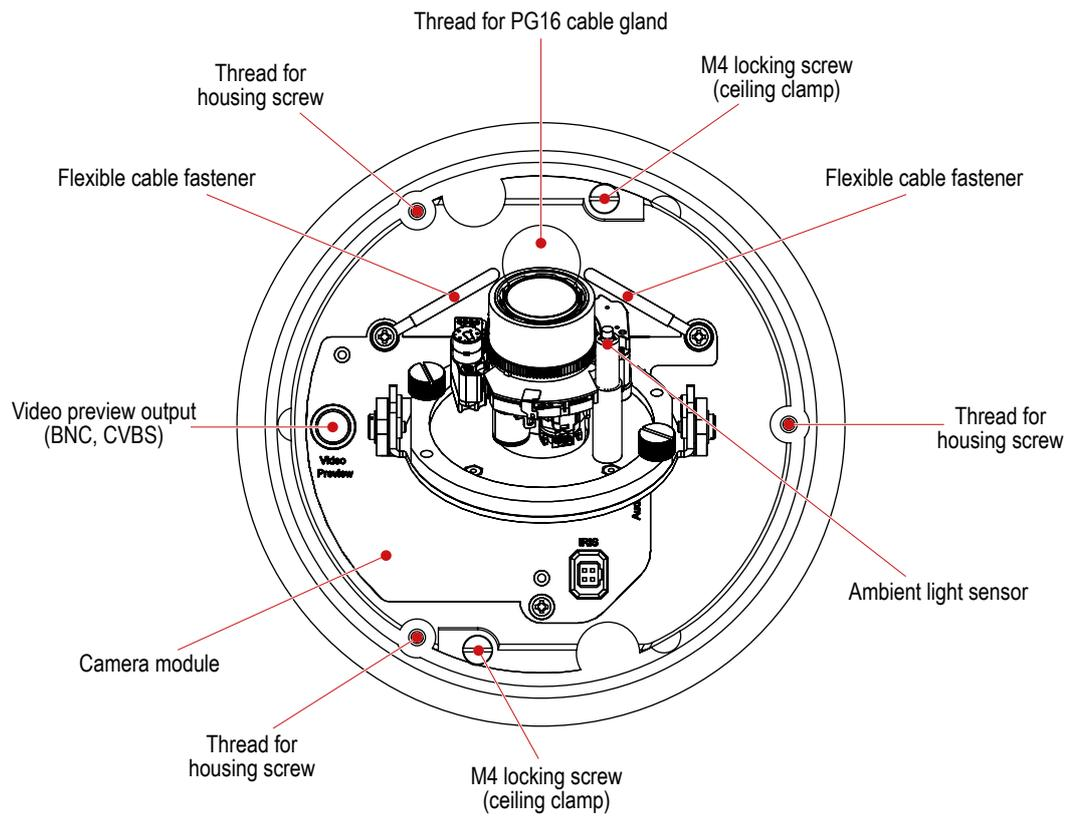
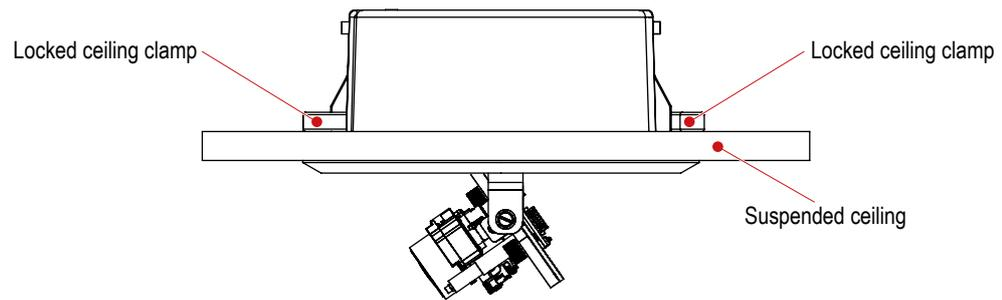

Fig. 5-2 Housing of in-ceiling mount variant (top view)
Fig. 6-4
- Tighten the M4 locking screw (Fig. 5-2) of both ceiling clamps with a Phillips screwdriver until the housing is fixed (Fig. 6-4).
- If necessary, connect a CVBS monitor to the video preview output (Fig. 5-2).